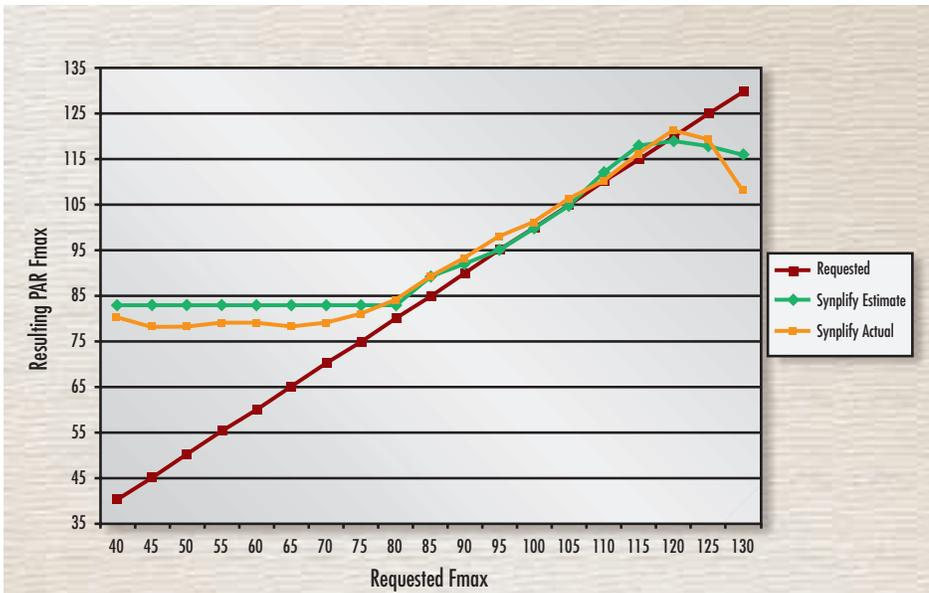

Figure 1 – Place-and-route frequency results meet design goals.
Figure 1 shows a graph of requested and actual maximum operating frequency (Fmax) for the place-and-route (PAR) results of a design run through the Synplify Pro synthesis tool. The tool's estimates follow the requested frequency line until other critical paths start appearing that the tool cannot optimize. At that point, Fmax starts to degrade.
2. For designs with both performance and device-size goals, the Synplify Pro engine provides performance on demand. As Figures 1 and 2 illustrate, when requested performance is non-taxing, the LUT count remains very low, which lets you choose a smaller device.